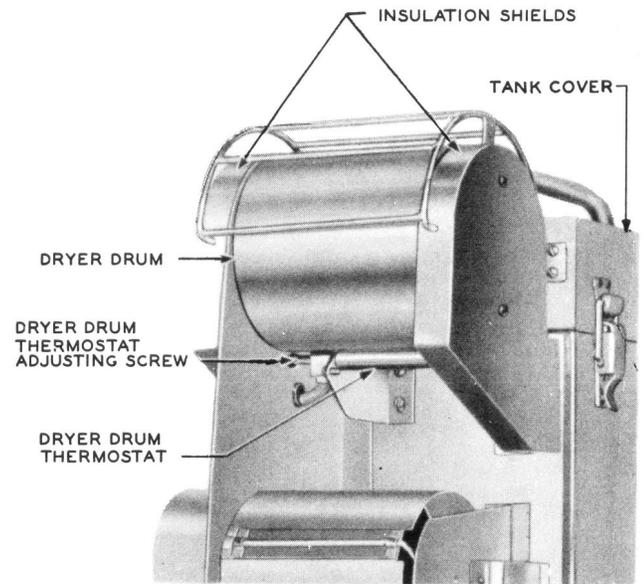

Fig. 3 – KS-14778 Photo Processor — Partial View Showing Dryer Drum Thermostat
(3) If the drum is heated but fails to reach the required temperature in the specified time, the trouble is due either to improper adjustment of the drum thermostat or to a defective heater. Adjust the thermostat as covered in (4). If this fails to clear the trouble replace the heater.
(4) If the temperature is outside the required limits, adjust the dryer drum thermostat as follows. To gain access to the thermostat adjusting screw (Fig. 3) remove the mounting screws of the insulation shields at the left end of the dryer drum with the 4-inch regular screwdriver. Remove the insulation shield and carefully remove the insulation.
(5) Using the 4-inch regular screwdriver turn the thermostat adjusting screw as required to increase or decrease the temperature setting. Because of differences in the thermostats which have been furnished on the photo processors, turning the adjusting screw clockwise in some cases increases and in other cases decreases the temperature setting. After adjusting the temperature setting, recheck the requirement.